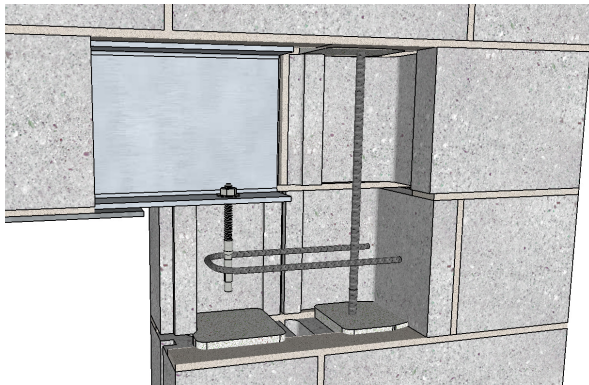

Figure 2: Steel lintel at bearing
- C) Steel lintels require additional and costly reinforcement. The required U-bar in Figure 2 is difficult and expensive to place, but is essential to prevent cracking. The vertical jamb reinforcement must be shifted away from the opening, which requires the jamb to be designed for more tributary width, resulting in a larger jamb. This condition also requires additional grout under the steel bearing. See Figure 2 below. An alternative to this detail is to have the jamb reinforcement go through the steel lintel. This is an expensive option that is difficult to construct and creates more potential problems than it resolves.